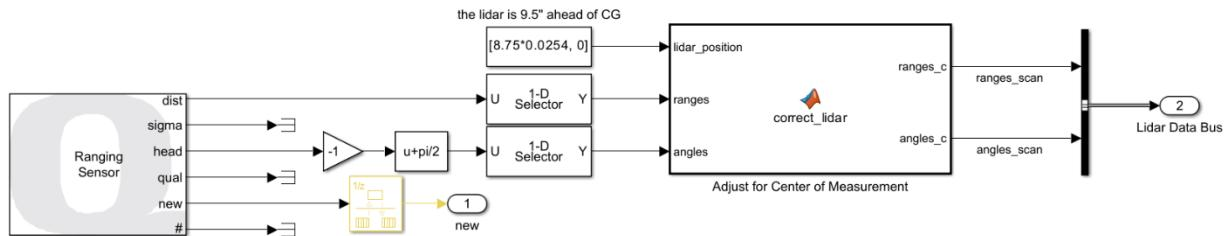

Figure 2. Lidar & Localization Block
- In this lab you will be focusing on processing the LiDAR scan data to enable obstacle detection of the QBot. First, we will take a look at the **Lidar and Localization** subsystem, it should look like figure 2. In this subsystem, the reference frame of the LiDAR data is transferred from the center of the sensor to the center of the QBot. The **Quanser Ranging Sensor** block outputs distances measured in meters and the corresponding headings. Other properties such as the standard deviation (sigma) and quality (qual) of the measurement were not used in our application. To learn more about the output of **Quanser Ranging Sensor** block, right click on the block and select "help" to go to its documentation.